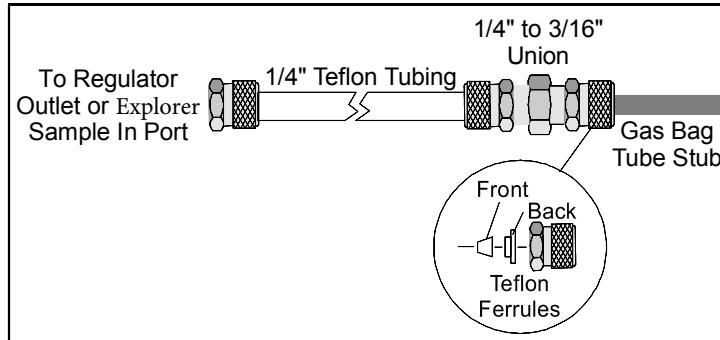

Figure 10 Gas Bag Adapter
2. Attach the knurled nut on the gas bag adapter to the regulator, as shown in Figure 10.
NOTE: *Do not remove the nut from the union as the Teflon ferrules contained inside the nut may be lost. See Figure 10.*